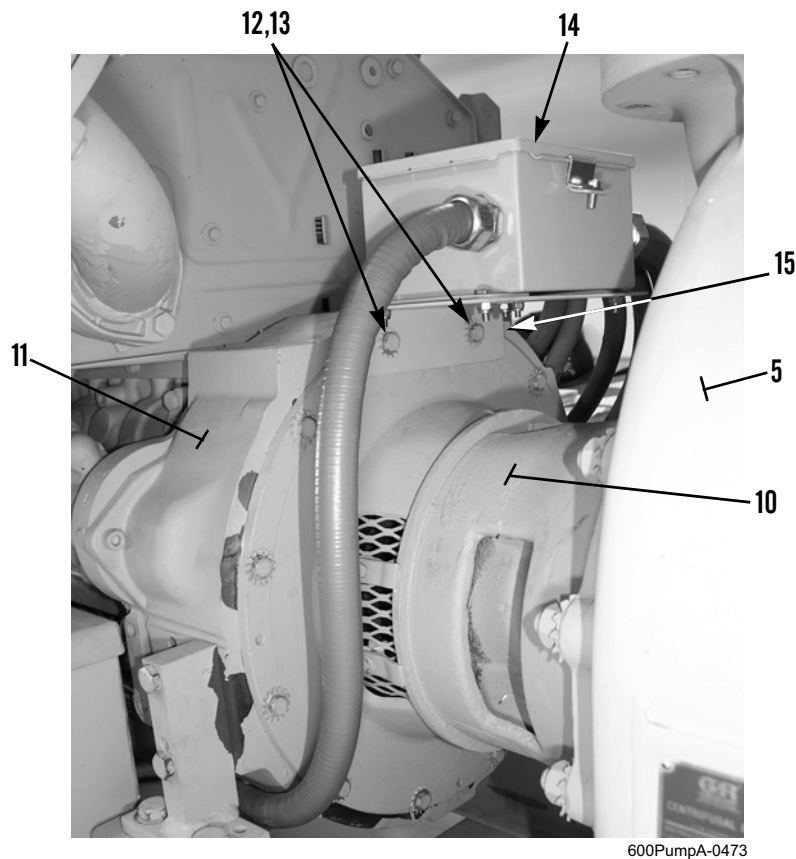
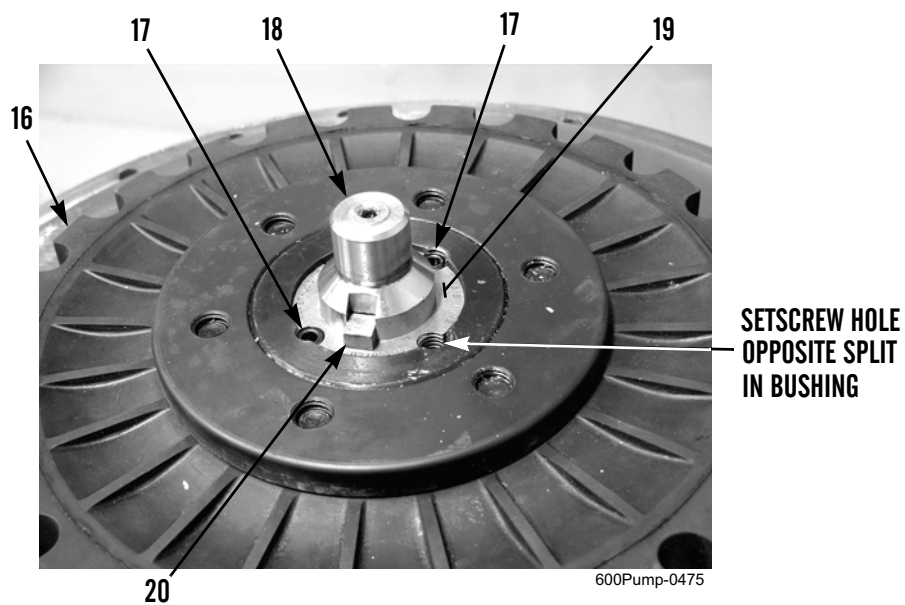

Figure 3. Intermediate Housing at Engine Flywheel Housing.
Figure 4. Flexible Coupling on Impeller Shaft.
5. Remove 12 capscrews (Figure 3, Item 12) and T-type lockwashers (Figure 3, Item 13) from intermediate housing (Figure 3, Item 10), engine flywheel housing (Figure 3, Item 11), and junction box mounting bracket (Figure 3, Item 15). Discard lockwashers.
6. Place junction box (Figure 3, Item 14) and mounting bracket (Figure 3, Item 15) out of the way on top of engine flywheel housing (Figure 3, Item 11) and secure with a tiedown strap.
7. Separate intermediate housing (Figure 3, Item 10) with attached pump (Figure 3, Item 5) from engine flywheel housing (Figure 3, Item 11) by pulling intermediate housing straight away from engine.
8. Place intermediate housing (Figure 3, Item 10) with attached pump (Figure 3, Item 5) on suitable cribbing in a clean work area with flexible coupling (Figure 4, Item 16) facing up.
9. To remove flexible coupling (Figure 4, Item 16) from impeller shaft (Figure 4, Item 18):
- a. Remove two allen head setscrews (Figure 4, Item 17) from bushing (Figure 4, Item 19).
- b. Install one removed setscrew (Figure 4, Item 17) in setscrew hole in bushing (Figure 4, Item 19) that is opposite split in bushing.
- c. Tighten setscrew (Figure 4, Item 17) while tapping on metal part of flexible coupling (Figure 4, Item 16).
- d. Remove bushing (Figure 4, Item 19) and slide flexible coupling (Figure 4, Item 16) from impeller shaft (Figure 4, Item 18).
- e. Remove impeller shaft key (Figure 4, Item 20).